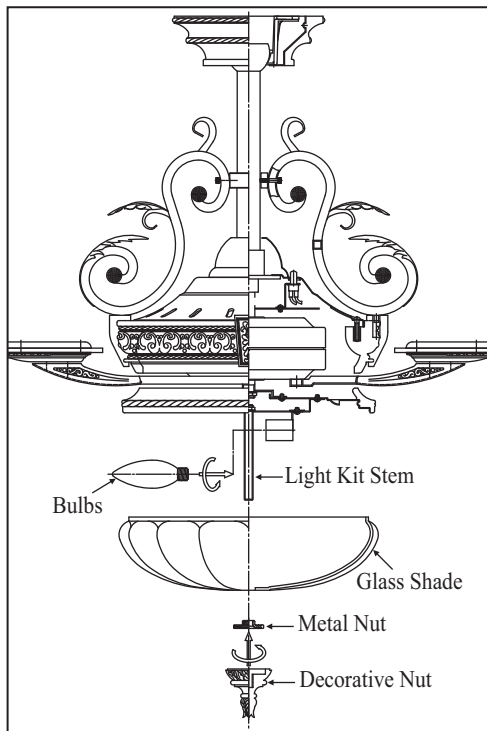

Figure 21
4. Install 3 x 40W candelabra bulbs (included). (Fig. 21)
5. Remove the metal nut and decorative nut from the light kit. Place glass shade over the light kit stem, secure with the metal nut (rubber side on the top) and decorative nut. Do not overtighten. (Fig. 21)